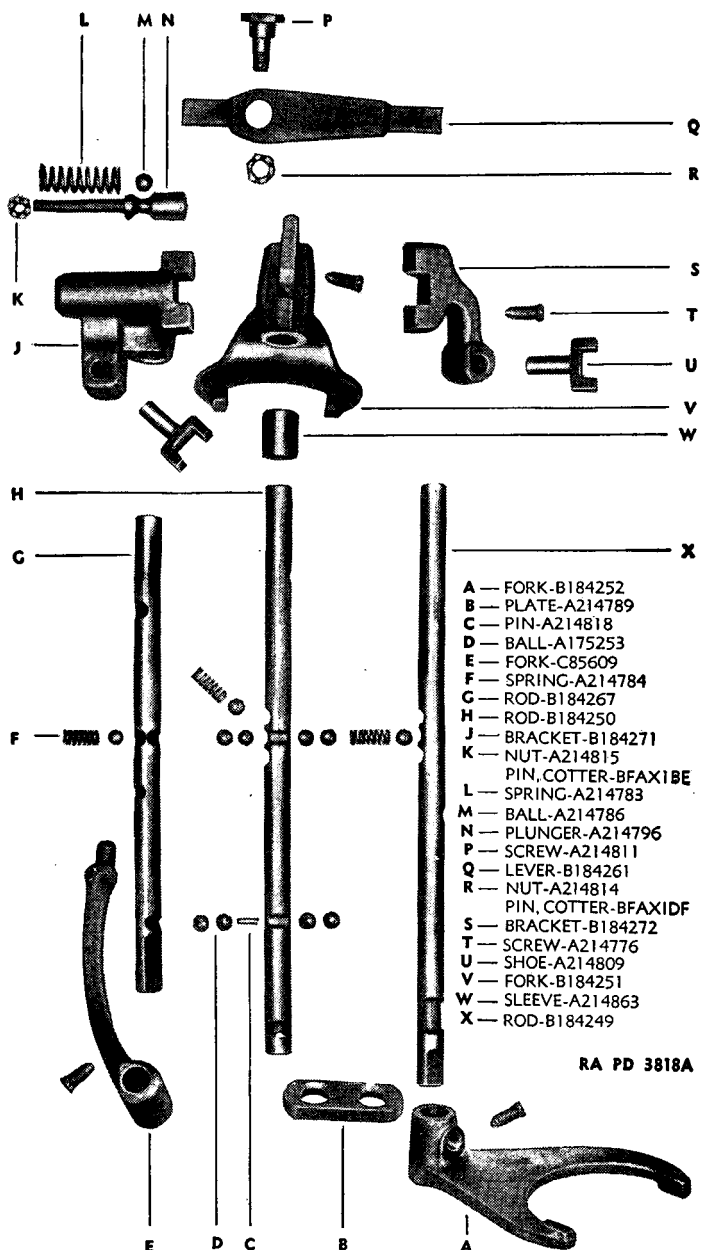
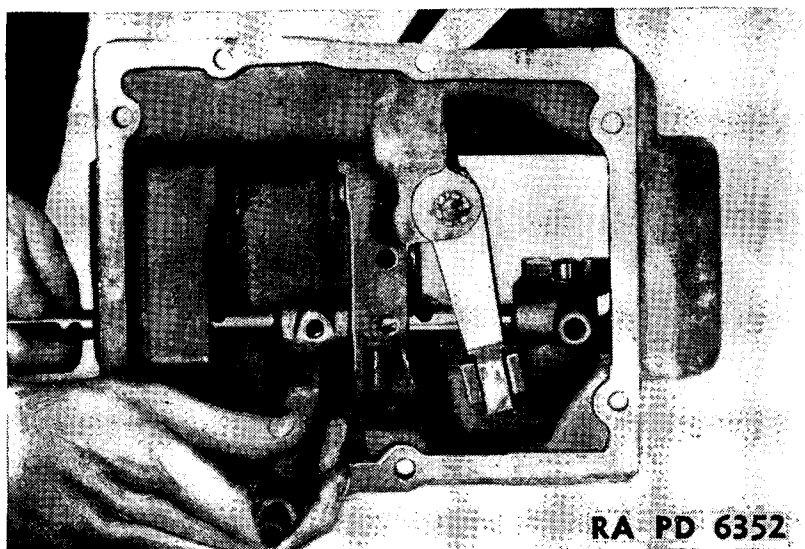

FIGURE 88.—Transmission shifter mechanism, exploded.
FIGURE 89.—Transmission first and second speed shift rod removal.
shift fork (B184252) and shift rod bracket (B184272) to shift rod (fig. 88). Pull shift rod (B184249) through rear end of housing and remove fork, bracket, and bracket and relay shoe (A214809) (fig. 89). Tip housing and remove one poppet ball (A175253), one poppet spring (A214784), and four interlock balls (A175253) (fig. 88).
(7) Remove third and fourth speed shift rod— $\frac{3}{8}$ -inch square socket wrench. Remove set screw holding third and fourth speed shift fork (B184251) to shift rod (fig. 88). Pull out shift rod (B184250) and
(8) Remove reverse shift rod— $\frac{3}{8}$ -inch square socket wrench. Remove set screw holding upper reverse shift fork (C85609) to shift rod (fig. 88). Pull out shift rod (B184267) and remove reverse shifting bracket (B184271), bracket and relay lever shoe, and reverse bracket lock ball (A1214786) (figs. 88 and 91).
(9) Disassemble reverse shifting bracket—pliers. Remove cotter pin (BFAX1BE) from bracket lock plunger nut (A214815) and
remove nut. Remove reverse bracket lock spring (A214783) and plunger (A214796) (fig. 88).